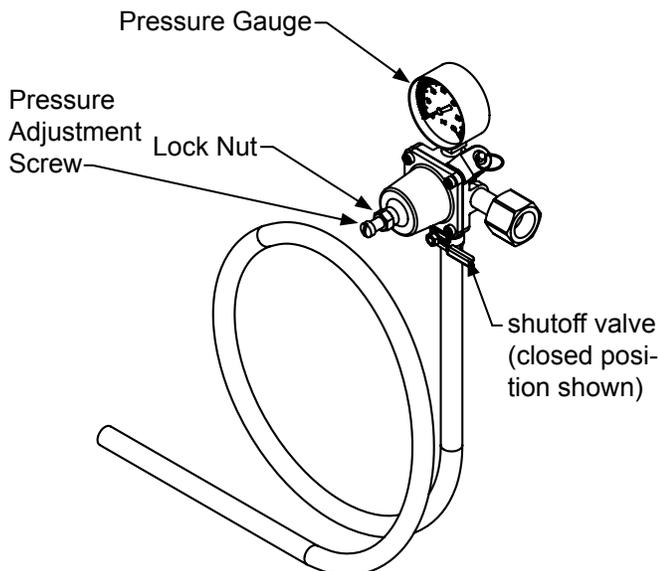
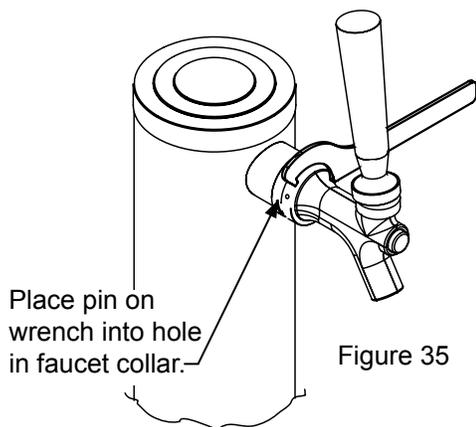

Figure 29 (Regulator for Single Dispense Tower)
Figure 35
2. Be sure the faucet handle is closed on the tower (see Figure 29).
Turn off the gas supply with the shutoff valve(s) under the regulator (see Figure 29 or 30) and open the faucet to relieve the pressure. To remove the faucet from the tower use the spanner wrench provided. Place the pin on the wrench into the hole on the faucet collar and turn clockwise to remove the faucet. (See Figure 35).